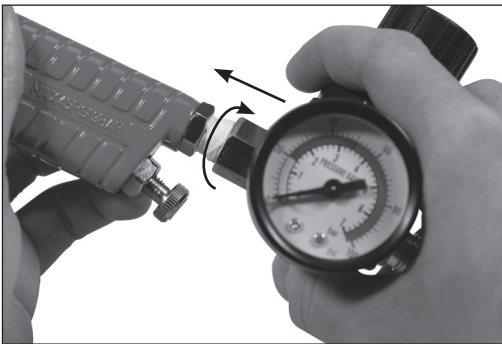

Fig. 7
1. Attach the regulator between the spray gun and air line (see 7.3 **Assembly, Filling and Connection to the Air Supply**) (Fig. 7).
2. Before pressurising the system, rotate the regulator adjustment dial (13) clockwise until resistance is met to fully close the valve.